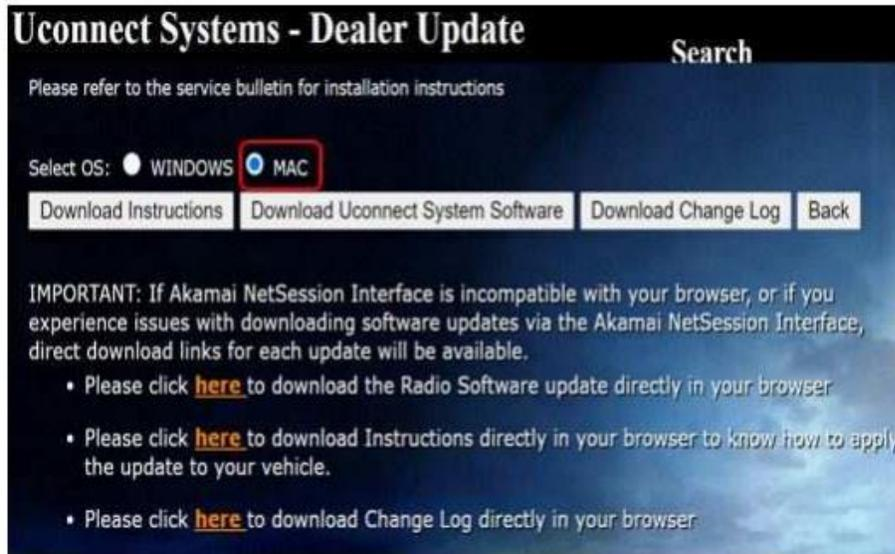

Figure 3 – MAC Download Steps
- Download the software update file to your local PC’s desktop. Make sure to select the “MAC” radial button for all downloads (Figure 3).